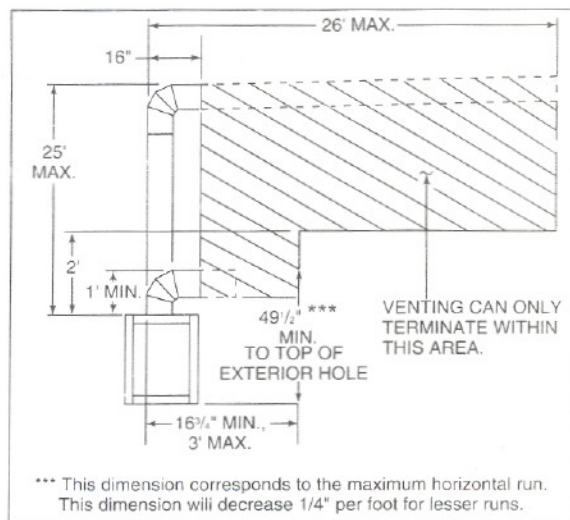

Figure 4
Minimum combustible clearances to the vent on a horizontal run is 3" on top and 1" on the bottom and sides. These clearances must be maintained at all times. The maximum horizontal run allowed for venting is 26 feet. The maximum vertical rise allowed for horizontal termination is 25 feet. See Figure 4.
4. Venting through the wall. Horizontal venting must terminate within the shaded area shown in Figure 4 on the previous page. For example, if your vertical rise is the minimum one foot, venting can terminate anywhere between 16 inches and 3 feet.